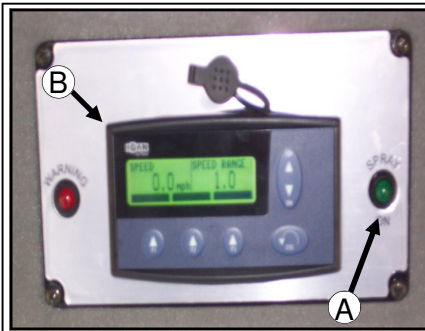

FIG. 26-1
**SPRAY SYSTEM INDICATOR LIGHT**– The spray system indicator light (fig. 26-1, item A) will illuminate when the main spray control on the hydrostatic lever (fig. 26-2) has been activated. If the light is not on, the spray system is not on.
**MDM**– The MDM (fig. 26-1, item B) is also referred to as the message center. The MDM takes the